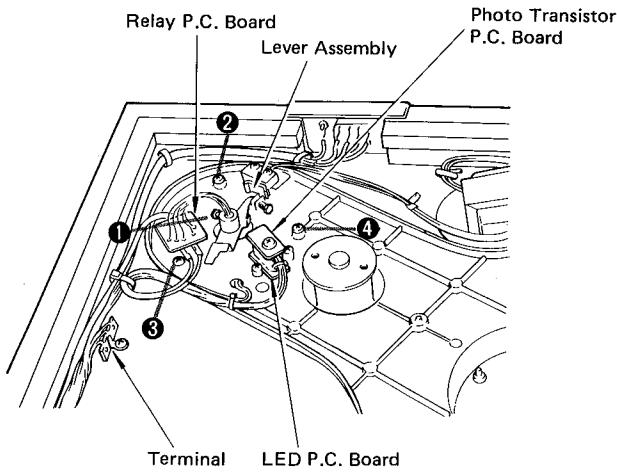

Fig. 3
**③ PICK-UP ASSEMBLY REMOVAL**
1. Remove the cabinet bottom. (Refer to step ①)
3. Loosen screw ① in Fig. 3 and then remove the lever assembly.
4. Remove screws ② to ④ in Fig. 3 and then remove the pick-up.